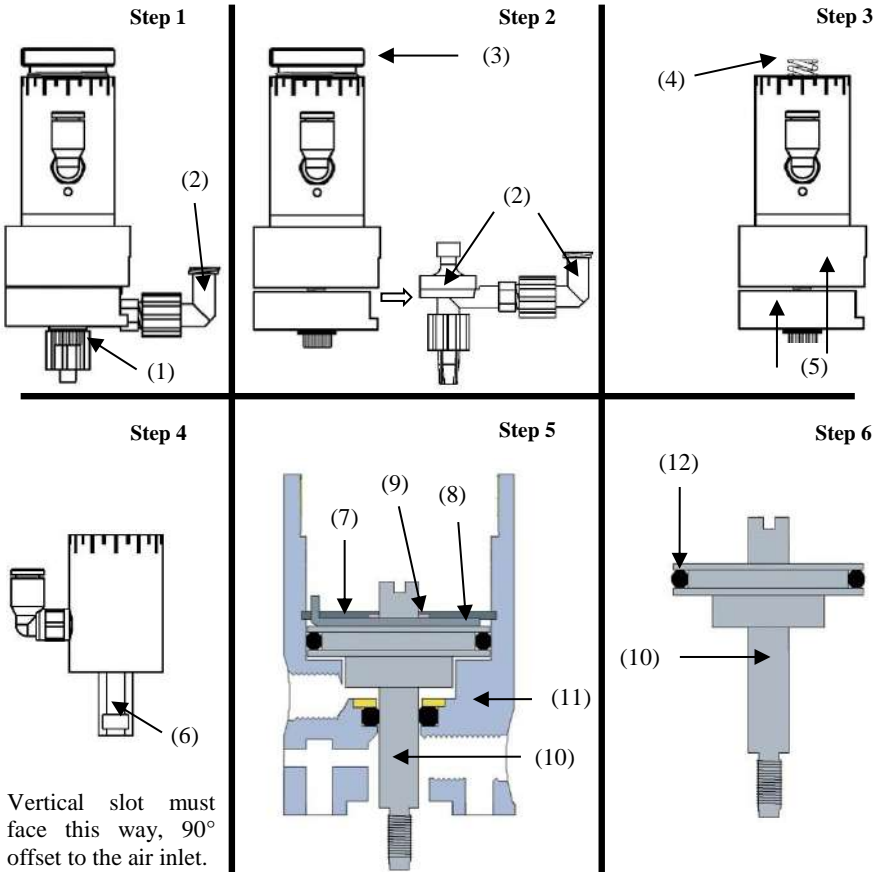

Figure 7.0
8. MAINTENANCE OF AIR CYLINDER O-RING (Refer to figure 7.0 and 8.0)